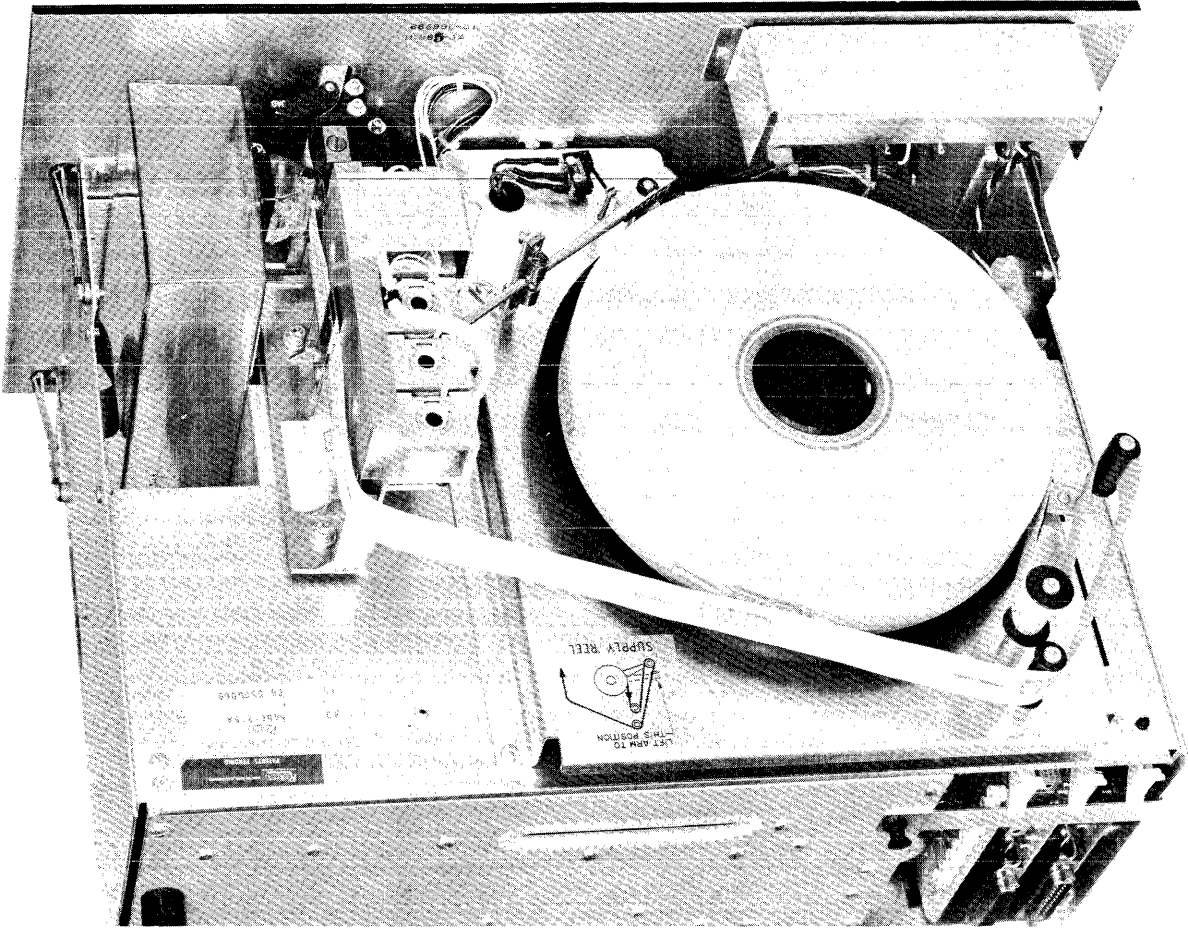

Figure 3-1. Tape Loading, Roll Type Tape
- b. RAR and RAB Units: Place a spool of tape on the supply reel and thread it through the punch and out the opening in the front panel. Thread the tape so that the supply arm is in the approximate center of its travel. On some units the actuation of either the tape supply switch, S6, or the tape supply error switch, S7 will inhibit tape punching. The threading path is shown in Figure 3-1 and on a decal mounted adjacent to the punch.